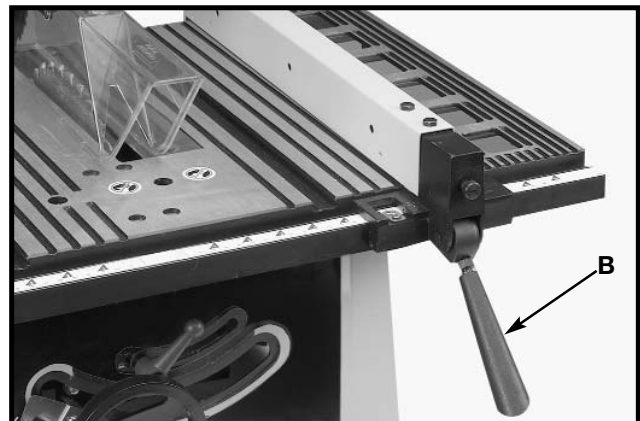

Fig. 26
3. The rip fence is usually set up on the right hand side of the saw table. Lift the lock handle (B) Fig. 26 and position the fence on the table. Push down on the handle (B) Fig. 26 to lock the fence in place.